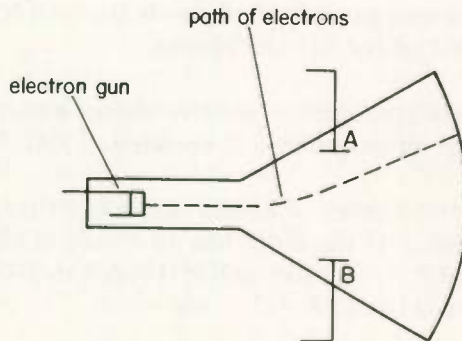

Fig. 7
10. In a cathode-ray tube a stream of electrons is shot from an electron gun as shown by the dashed lines in Fig. 7. Plates A and B are oppositely charged, so that one attracts and the other repels the electron beam, thereby bending it toward plate A as shown. Plate A is (a) POSITIVELY charged, and plate B is (b) NEGATIVELY charged.